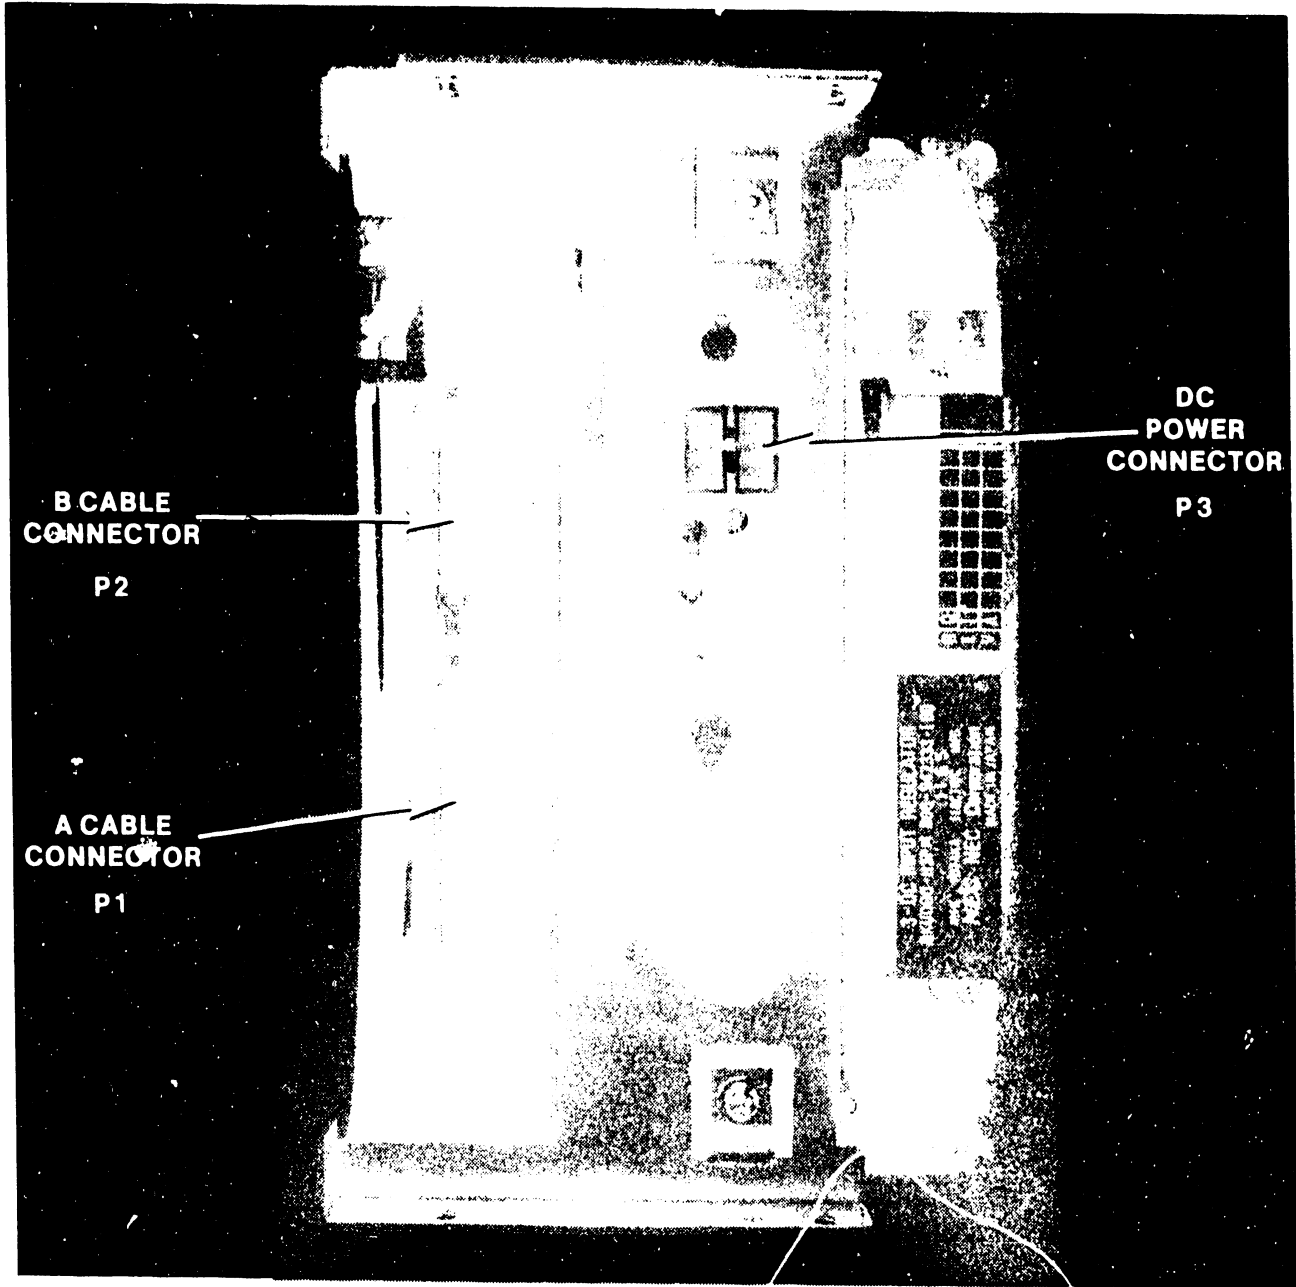

Figure C-19. Rear View of NEC Drive
- g. Before sliding the drive all the way back into the cabinet, connect the A signal cable to P1 and the B signal to P2, and the dc power cable (220-2059) to the 6-pin connector P3 at the rear of the drive. (Figure C-19.) The drive does not use ac power.